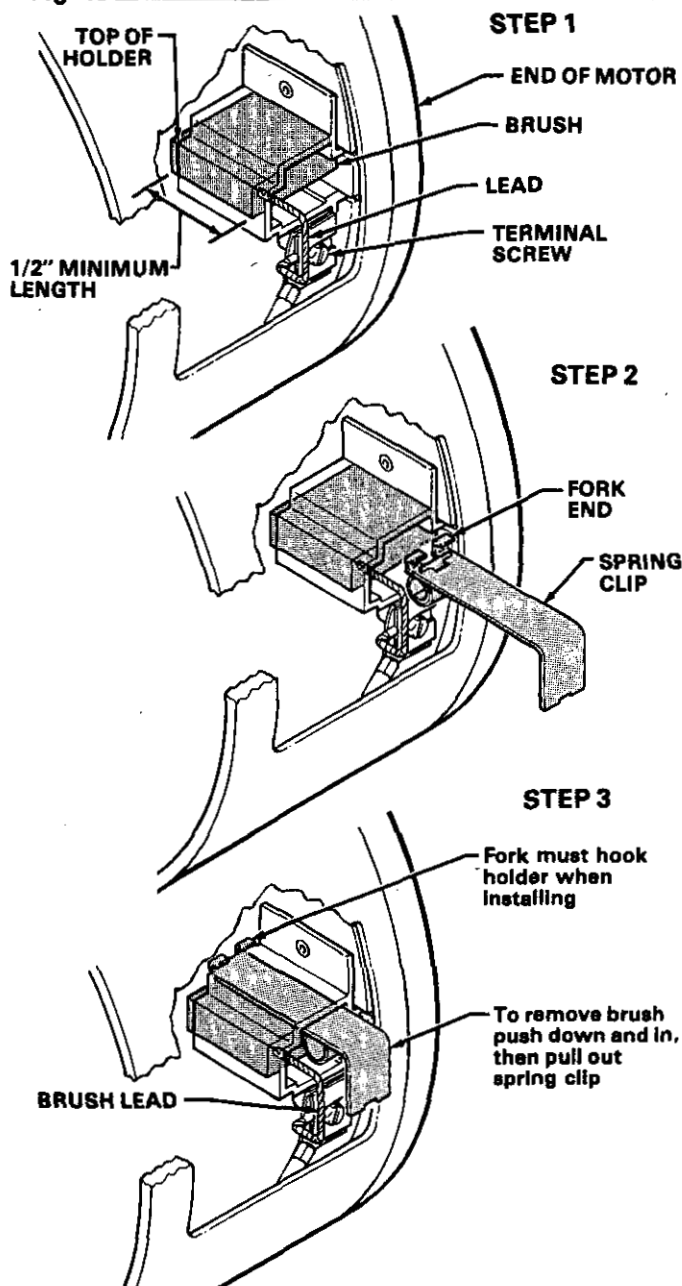

Fig 14
NOTE: Replace the brushes when they have worn to no less than 1/2 in. See STEP 1, Fig 14. Note that the brushes wear differently on each side of the motor. Brush Repair Kit 220-349 is available.
3. Push down and then in on the spring clip, and then pull the clip out of the brush holder. Refer to STEP 3, Fig 14. Keep the spring clip.
7. Place a new brush in the holder so the lead is at the top of the holder. Place the brush lead terminal on the terminal screw so the terminal is parallel with the brush holder. Tighten the terminal screw. See STEP 1, Fig 14.
8. With the spring roll touching the brush, push the forked end of the spring clip into the brush holder. See STEP 2, Fig 14. When the fork passes through the end of the holder, push the clip up or down until the fork hooks the end of the holder. See STEP 3, Fig 14.
9. Position the brush lead as shown in STEP 3, Fig 14. Be sure the brush lead does not touch any part of the armature or motor housing.